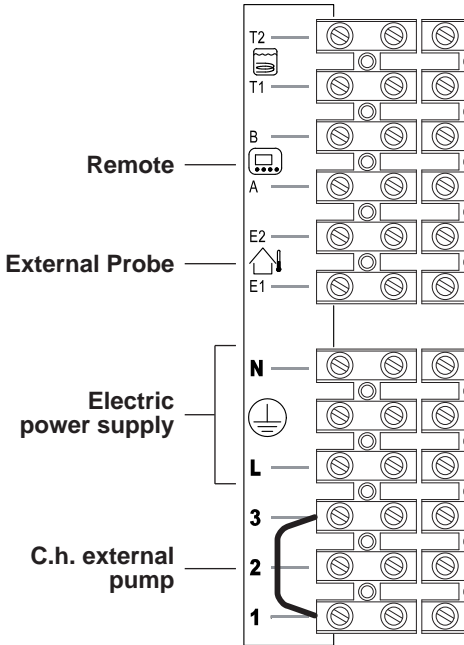
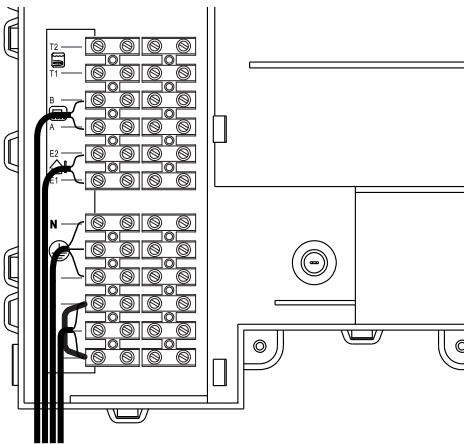
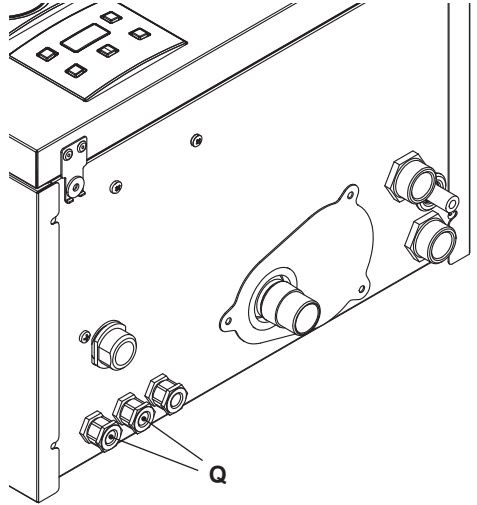

Fig. 6.16
Fig. 6.17
Fig. 6.18
- Connect the electric power supply cable coming from the fused spur isolation switch to the power supply terminal block of the boiler Fig. 6.16 keeping the same connections for the live (brown wire) and the neutral (blue wire). External 3A fuse or fused plug with same current rating is recommended.
The route of the boiler and ambient thermostat's electric power supply cable or wires must follow the route indicated in Fig. 6.17.
the relevant cable clamps Q (Fig. 6.18).
Use the clamps indicated in Fig. 6.16 to connect the ambient thermostat.
Use the ambient thermostat's clamps indicated in Fig. 6.16 and Fig. 6.17. to connect the zone valve. Insert the electric cables of
the zone valve's micro switch contacts in clamps "1 and 3" of the ambient thermostat's terminal block as in Fig. 6.17.
The route of the boiler and ambient thermostat's electric power supply cable or wires must follow the route indicated in Fig. 6.17. Allow the cables to exit the boiler by using the relevant cable clamps Q(Fig. 6.18).
The route of the external probe's connection wires must follow the route indicated in Fig. 6.17.
Allow the cables to exit the boiler by using the relevant cable clamps Q(Fig. 6.18).
The route of the remote control cable must follow the route indicated in Fig. 6.17.